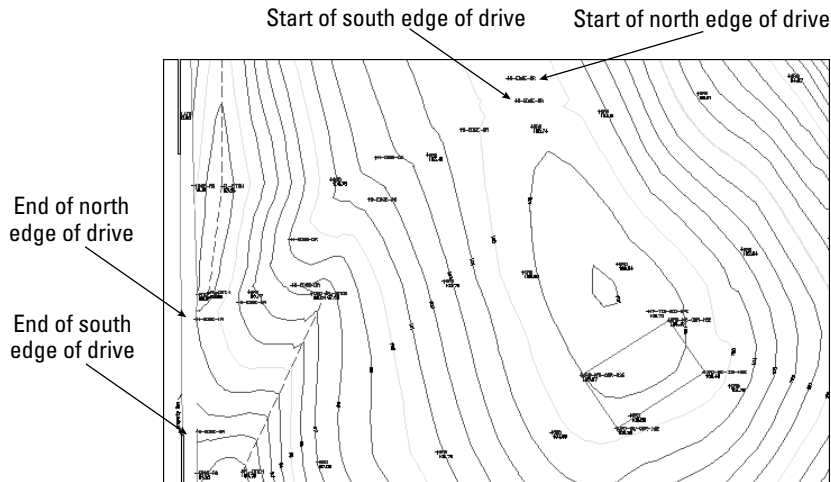

Figure 16-6: A topographical site map. You can complete the gravel road based on surveyor's data.
2. Save the file as *ab16-03.dwg* in your AutoCAD Bible folder. This is a topographical site map, shown in Figure 16-6. OSNAP should be on. Set a running object snap for insertion.
4. At the Specify first point or [Object]: prompt, use the Insert object snap to pick the cross at the start of the north edge of the drive, as shown in Figure 16-6. Continue to pick the crosses marked N-EDGE-DR. Choose Pan from the Standard toolbar to do a real-time pan when you reach the edge of the display. Press Esc. Continue picking points until you get to the end of the north edge of the drive, as shown in Figure 16-6. Press Enter to end point selection.
6. Start the SPLINE command again and pick points for the south edge of the drive, from the start of the south edge of the drive to the end, as shown in Figure 16-6. Pan as necessary. Again, press Enter to accept the default directions for the start and end tangents.